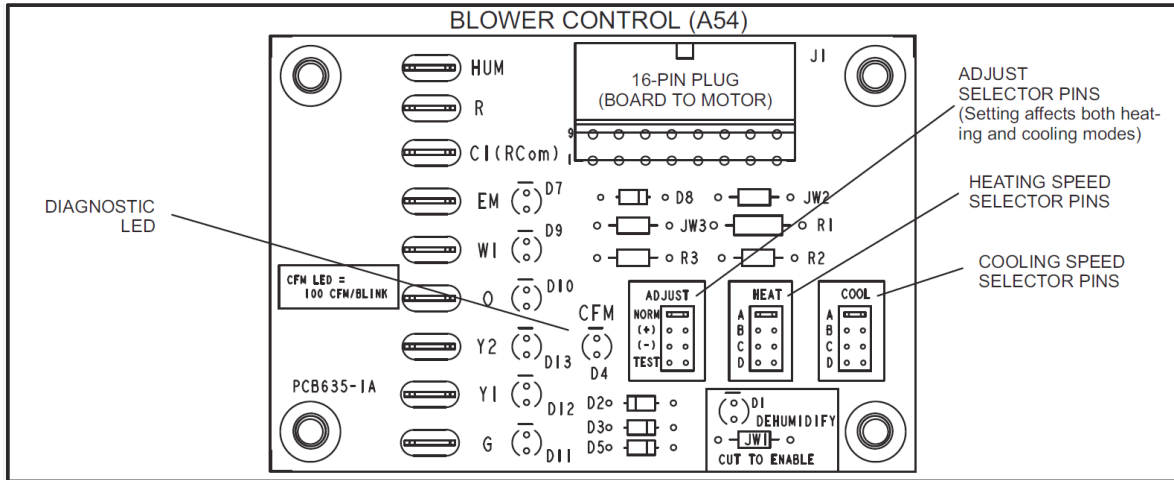

Figure 12.
Each of the numbers corresponds with an air volume (CFM) setting. The ADJUST jumper is labeled Test, -, +, and Norm. The + and - pin settings are used to add or subtract a percentage of the CFM selected. The Test jumper is used to operate the motor in the test mode. Figure 12 shows the blower control.
**The CFM LED** located on the blower control flashes one time per 100 cfm to indicate selected blower speed. For example, if the unit is operating at 1200 CFM, the CFM LED will flash 12 times. If the CFM is 1150, the CFM LED will flash 11 full times plus one fast or half flash. At times, the light may appear to flicker or glow. This takes place when the control is communicating with the motor between cycles. This is normal operation. Read through the jumper settings section before adjusting the jumper to obtain the appropriate blower speed. To change jumper positions, gently pull the jumper off the pins and place it on the desired set of pins. The following section outlines the different jumper selections available and conditions associated with each one. Refer to Figure 12.